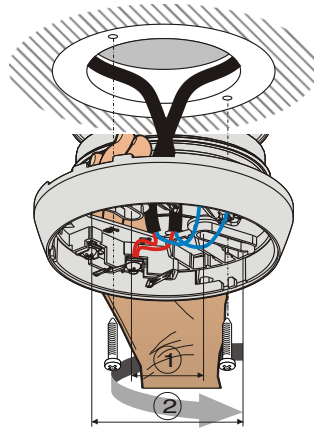

Fig. 2
1. Thread the cable through cable entry into the base (Fig.2/3), cable diameter up to 8mm.
2. Directly secure the base with screws to the recess box or an even surface (Fig. 2)